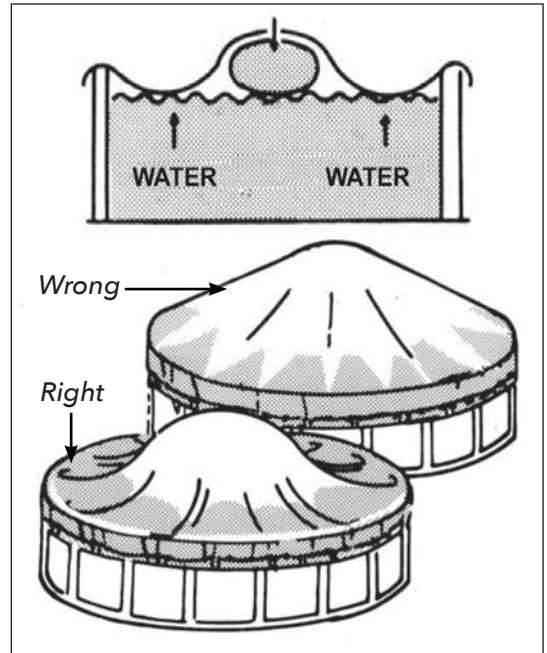

figure 1
2. Inflate ice equalizer pillow 3/4 full and secure in pool center by tying grommets ends to pool side wall. These support lines should not be too tight, but allow the equalizer to float up and down on the water. (figure 1)